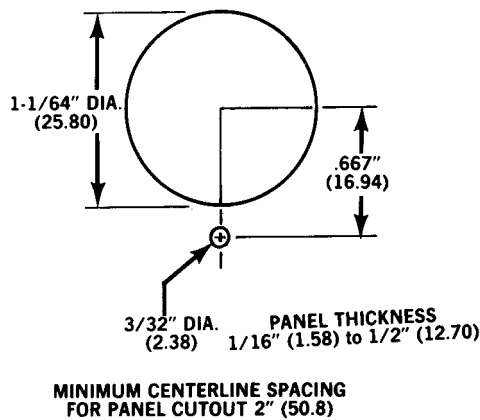

Figure-1
**Surface:** These devices may also be mounted on a panel face (1/2" maximum panel thickness) by using a 1-1/64" mounting hole. (See Figure-1).